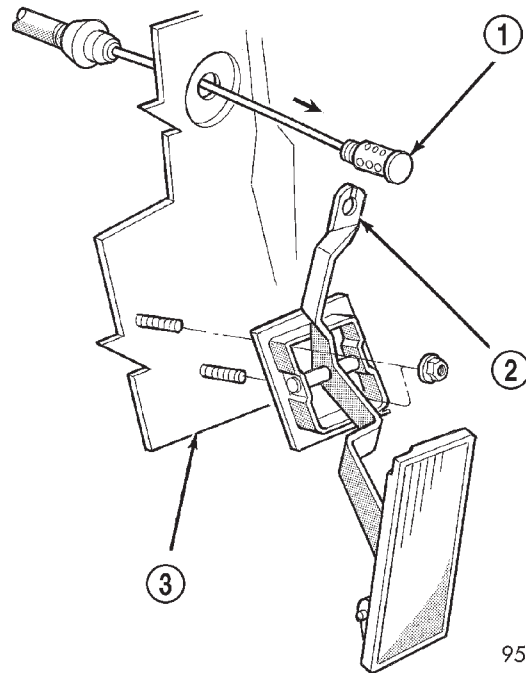

Fig. 32 Accelerator Pedal and Throttle Cable
(2) Reach behind the top of the pedal shaft and push the retainer toward rear of vehicle (Fig. 32). It may be necessary to squeeze retainer ears together on dash side of pedal shaft.
(3) Lift cable up through slot in top of pedal shaft.